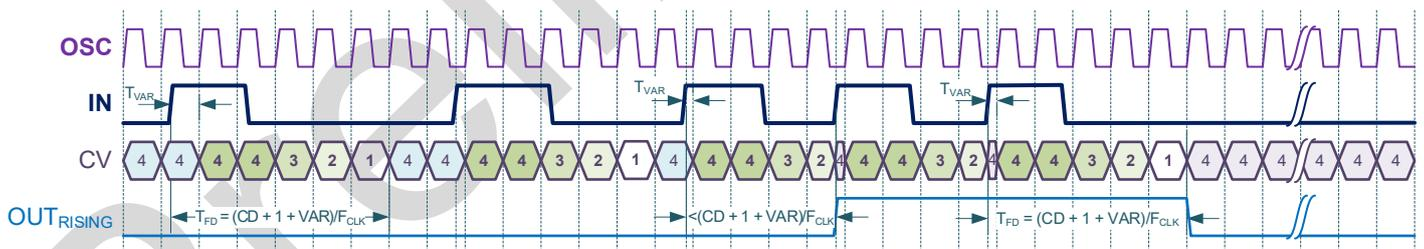
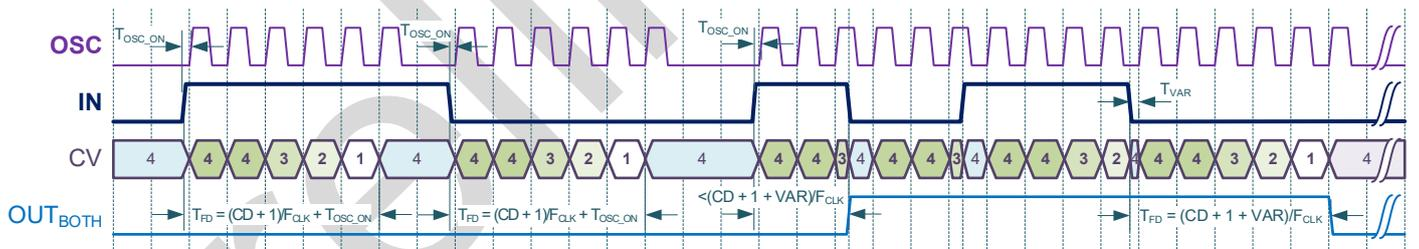

Figure 9.19. Frequency Detector Mode Timing Diagram (Rising Edge, Forced OSC)
Figure 9.24. Frequency Detector Mode Timing Diagram (Both Edge, Auto OSC)
The timing diagrams of the Frequency Detector Mode is shown in the Figure 9.19...Figure 9.24.
- Frequency Detector (Figure 9.19...Figure 9.24)